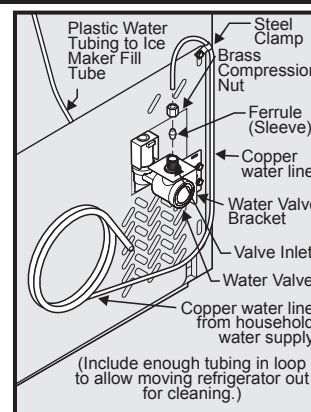

Figure 1
- If you use copper tubing - Slide brass nut, then ferrule (sleeve) onto water supply line. Push water supply line into water valve inlet as far as it will go (1/4 inch). Slide ferrule (sleeve) into valve inlet and finger tighten nut onto valve. Tighten another half turn with a wrench; DO NOT overtighten. See Figure 1.